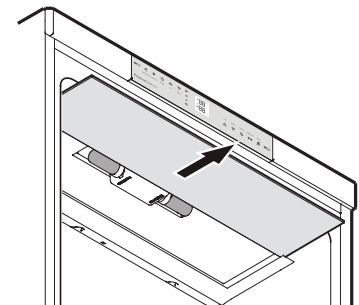

Figure 15
2. Remove the glass plate - **Fig. 15**.